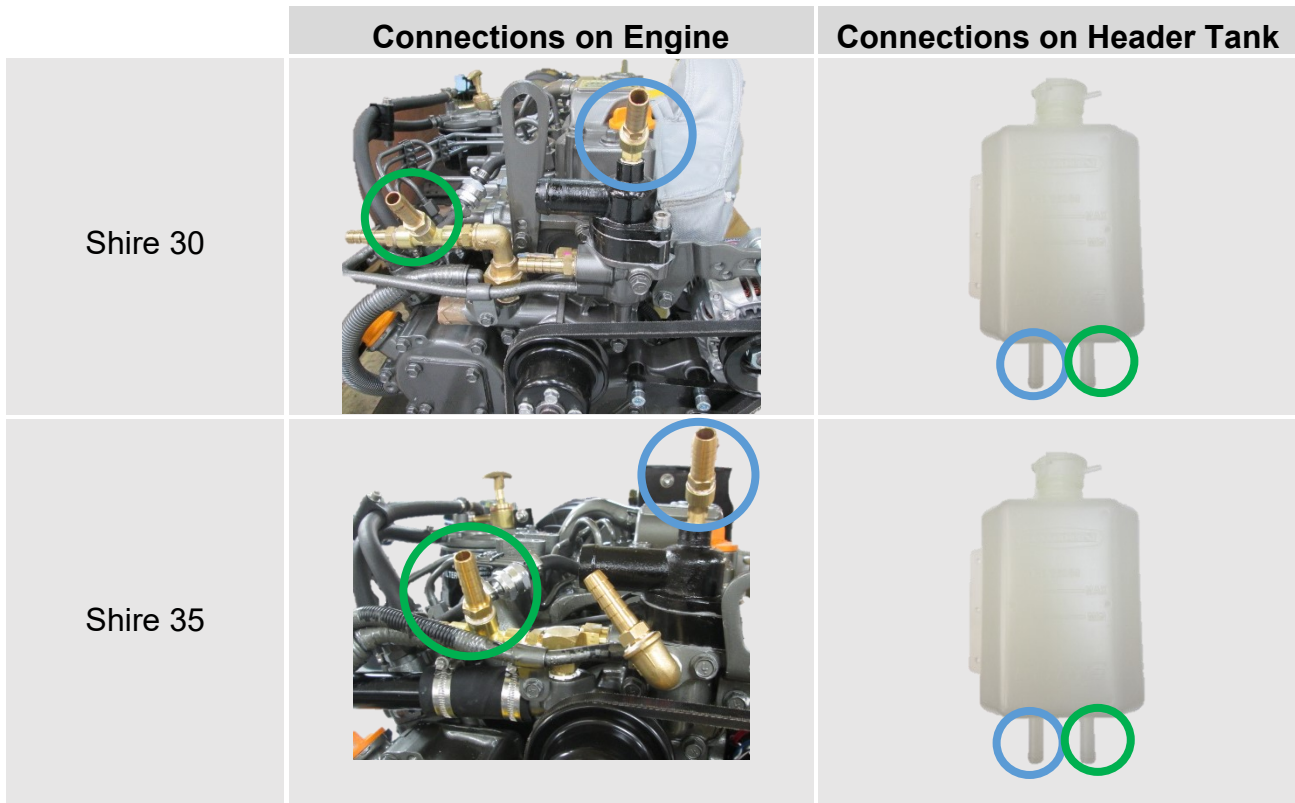

Figure 14: Header Tank Connections
- The connections for the Header Tank are shown on **(Figure 14)**